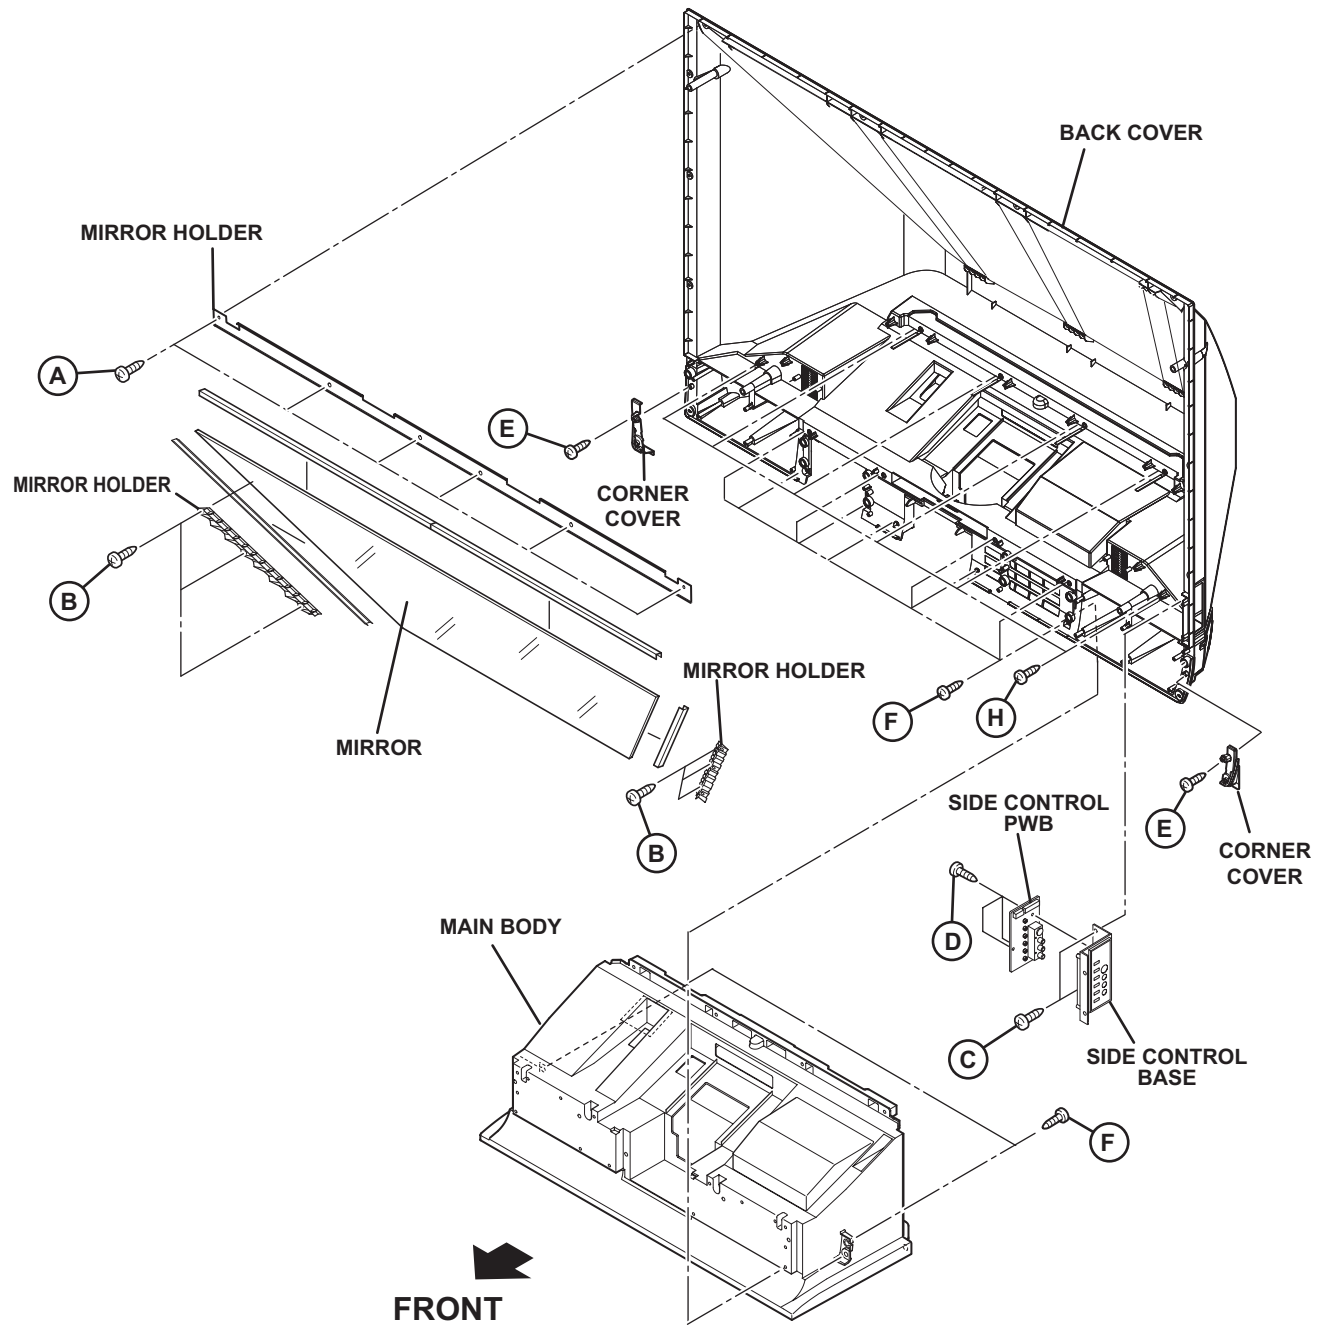

Fig.4
3.1.2.11 REMOVING THE MIRROR (Fig.4)
3.1.2.12 REMOVING THE SIDE CONTROL PWB (Fig.4)
3.1.2.13 REMOVING THE CORNER COVER (Fig.4)
3.1.2.14 REMOVING THE BACK COVER (Fig. 4)